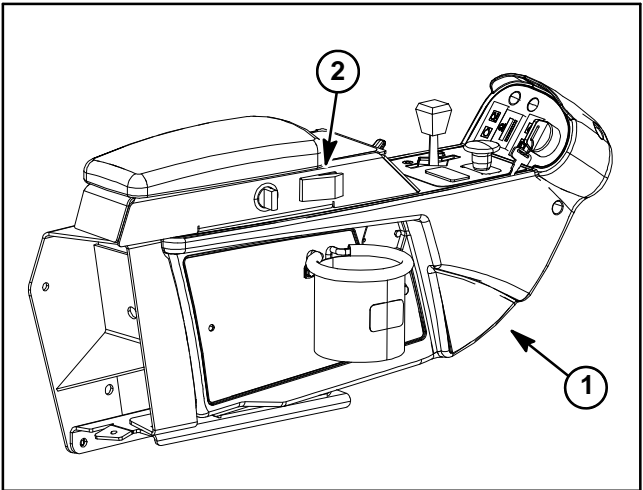

Figure 30
The engine cooling fan switch is located on the outside of the console arm (Fig. 30). This two (2) position rocker switch allows the engine cooling fan to run in the normal, automatic mode or in the manual reverse (momentary) direction.